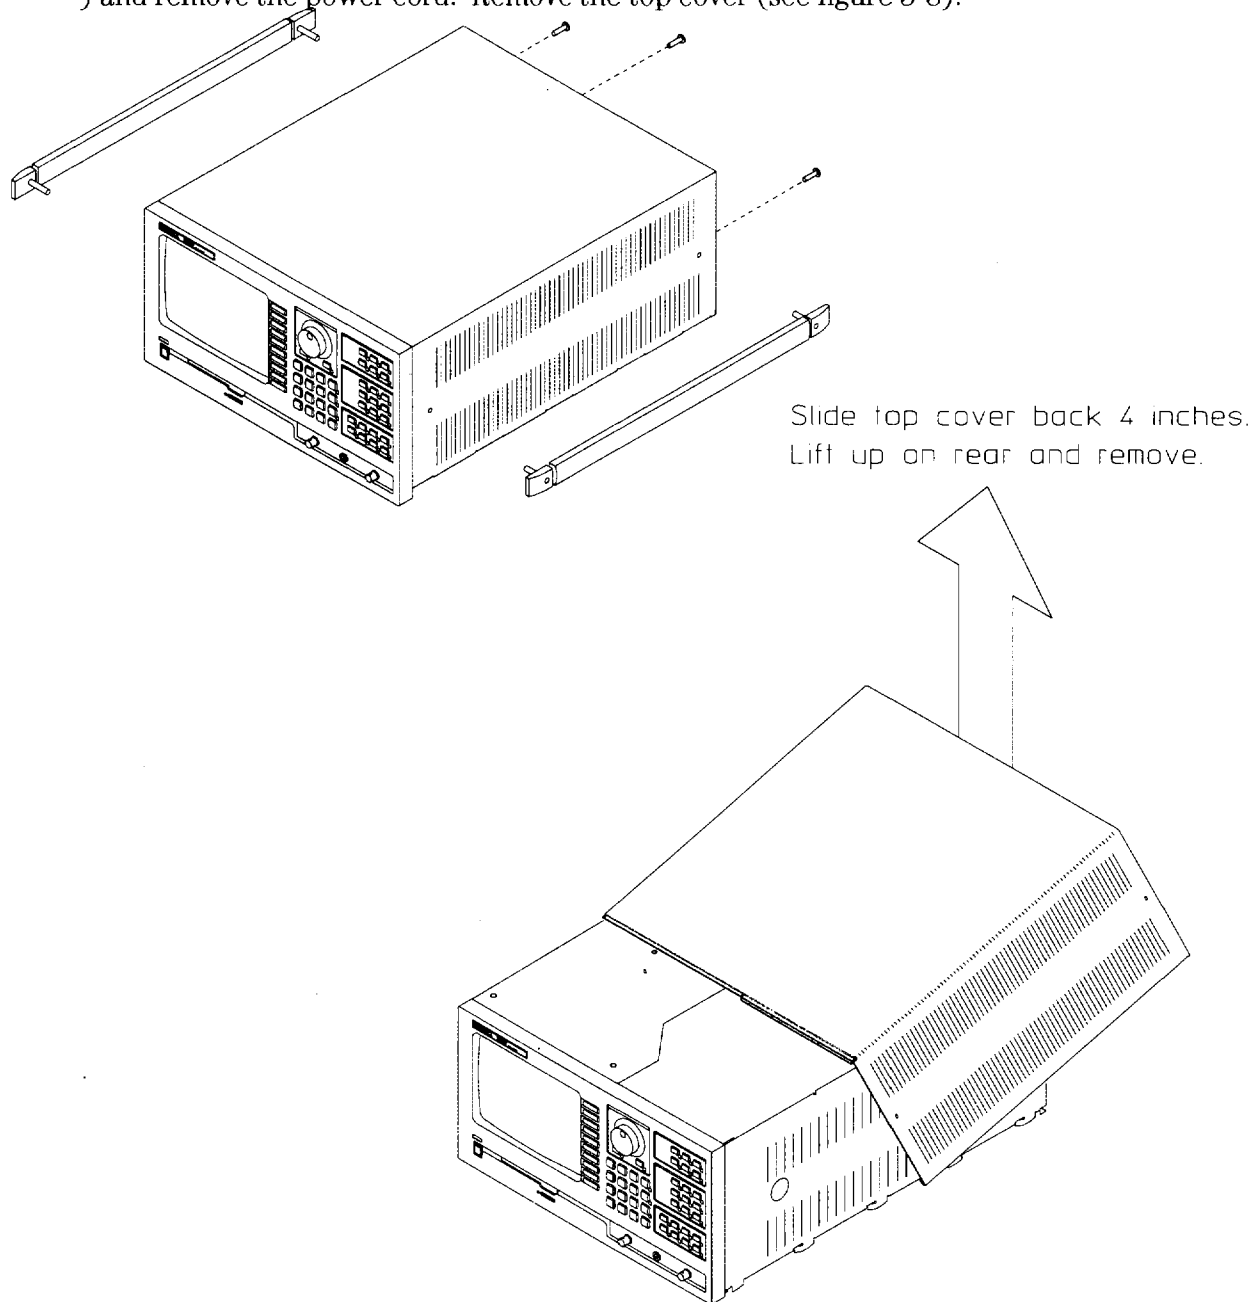

Figure 3-8. Removing Top Cover
1) and remove the power cord. Remove the top cover (see figure 3-8).